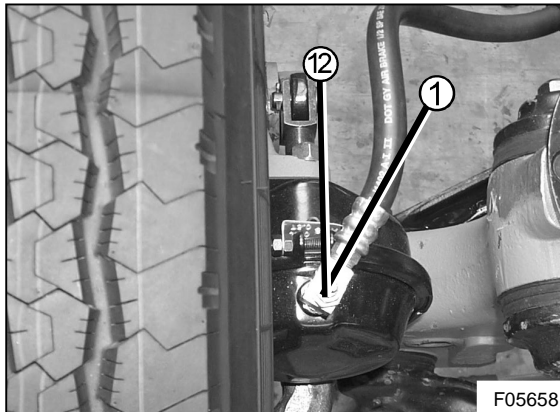

Figure 11: Left hand brake chamber tee connector in 1 o'clock position.
- Repeat steps 1 through 6 as per right hand brake hose. Adjust the tee connector to point in the 1 o'clock direction (see Figure 11).